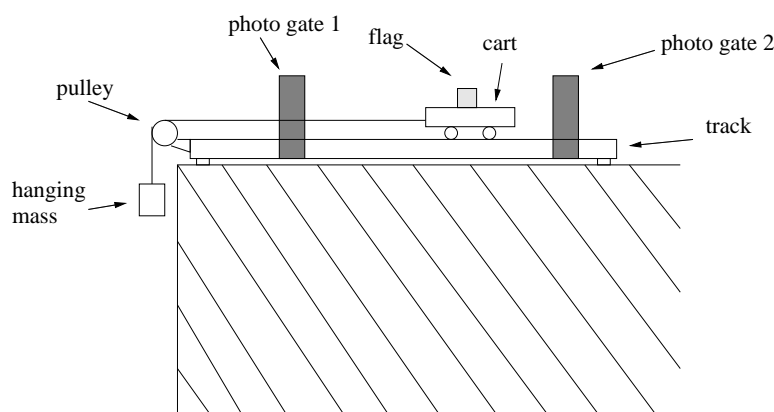

Figure 1: Setup for the Newton's 2nd Law experiment
Assemble your cart and track to look similar to the setup illustrated in Figure 1. For any step appearing to have already been completed, it is important to verify that it is, indeed, configured correctly as your data depend on it.
- (i) The cart must start moving *before* it enters the first photo gate (right-hand gate in Fig. 1) and
- (ii) The flag must pass through the second photo gate (left-hand gate in Fig. 1) *before* the hanging mass reaches the floor.Once the photo gates are in place, do *not* move them for the rest of the experiment.